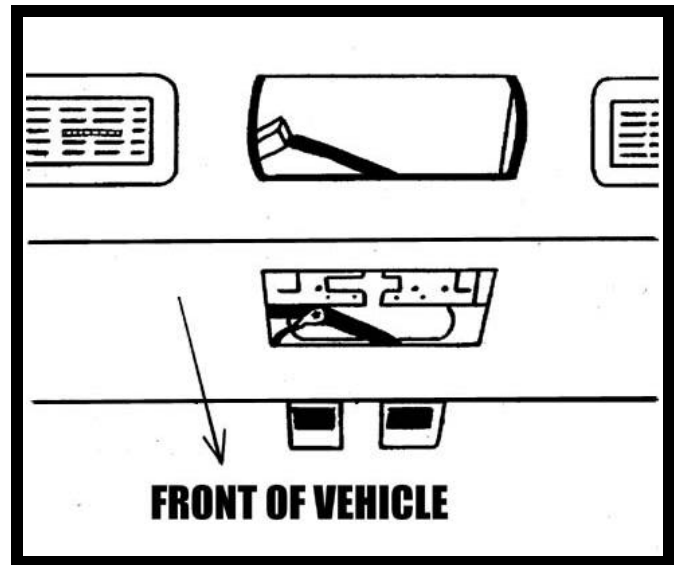

FIGURE 5
4. Remove OEM dome light and rear air conditioning control head. Disconnect wiring and set control head aside in a safe place. Remove the OEM ground screw near the center dome light assembly if applicable. See Figure 5.